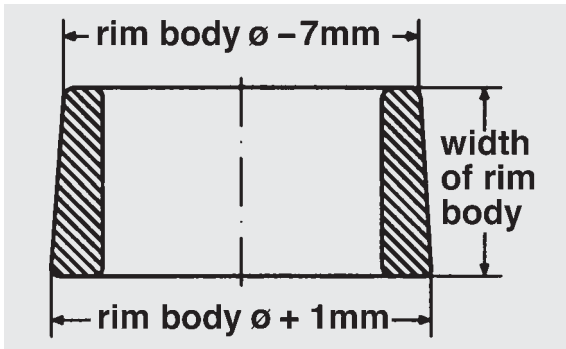

Fig 2. Pressure ring (A)
- Pressure ring (fig. 2) to suit the rim diameter (inner dia. = rim dia. + 2mm). Pressure blocks must not be used instead of this pressure ring!